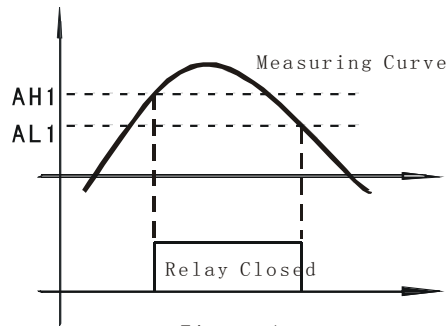

Figure 4
b) Set $AH1>AL1$ (or $AH2>AL2$): Normally used for upper limit alarm trigger. See Figure 4.